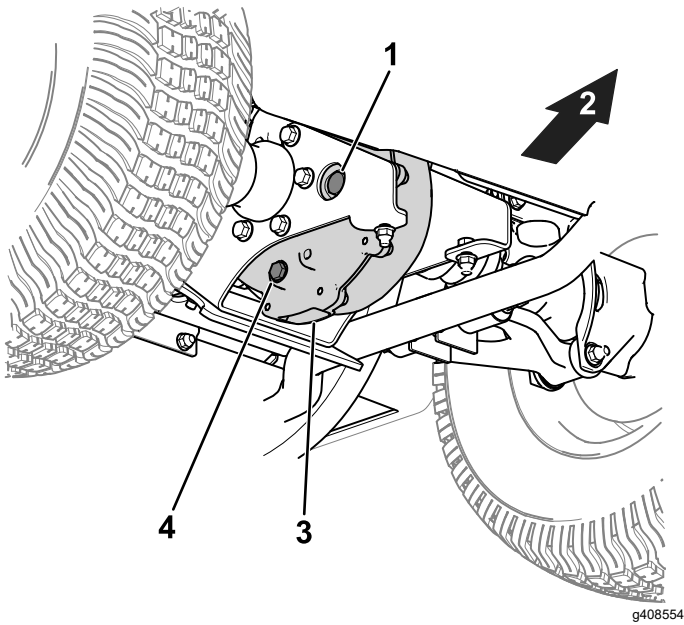

Figure 43
- Remove the fill plug on the transaxle (Figure 43).
- If the fluid level is low, remove the fill plug and add the specified fluid until it runs out of the hole (Figure 43).
- Align a drain pan under the drain plug (Figure 43).
- Remove the fill plug (Figure 43).
- Remove the drain plug, and allow the fluid to drain completely (Figure 43).